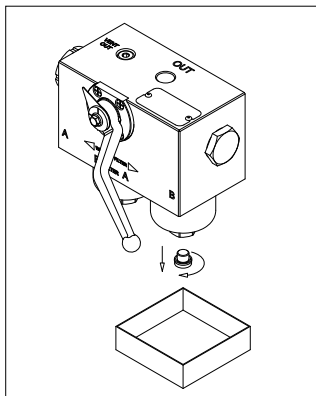

fig. 18
- (Fig. 18) Unscrew the drain plug after placing a vessel to collect the operating fluid